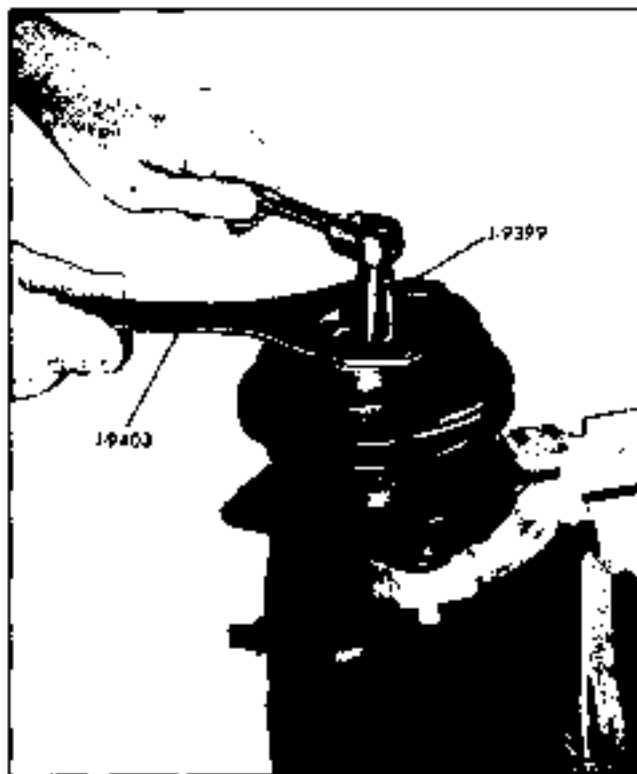

Fig. 1A-4 Removing Hub and Drive Plate Lock Nut
1. Insert square drive key into shaft so it projects approximately 3/16" out of end of keyway (Fig. 1A-7). Wedge into keyway with blunt tool.